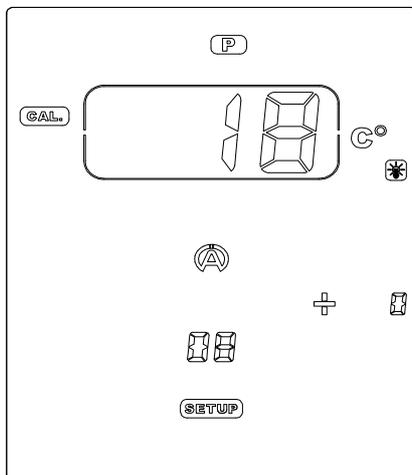

Figure 23
- 2) Press the central button  to calibrate the sensor of pressure and to leave the menu (figure 23).
- 2) Connect the sensor of temperature (figure 23).